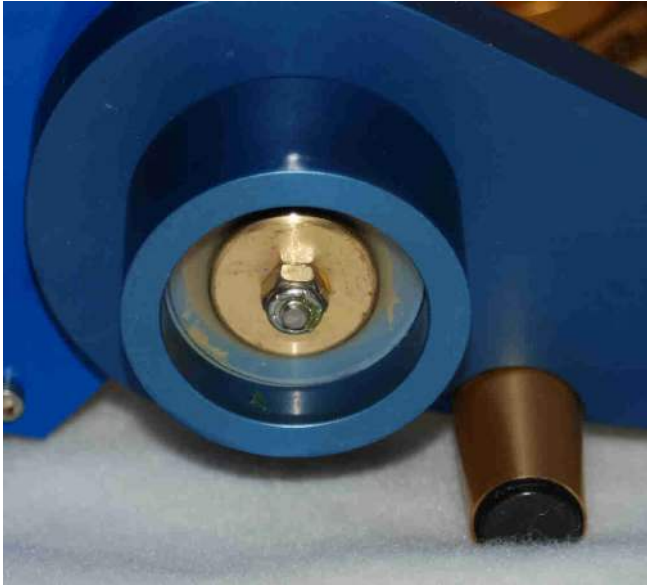

Fig 6
(9) SWING ARM AND POST. (Fig 6)